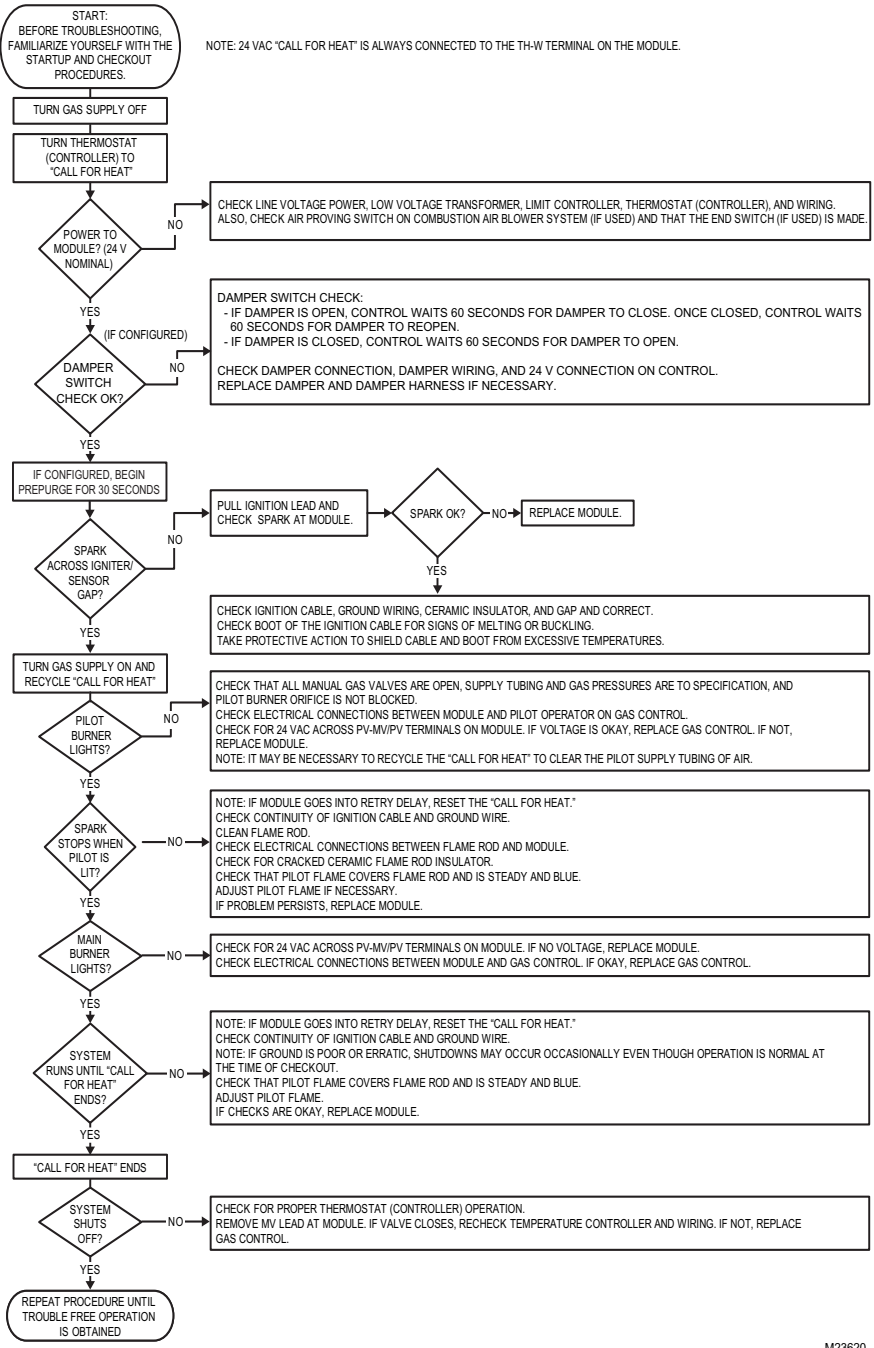

Fig. 11. Troubleshooting Guide.
- e. If main burner doesn't light or if main burner lights but system locks out, check the ignition control module's ground wire and the gas control as described in "Troubleshooting" on page 18 and refer to the Troubleshooting Guide (Fig. 11 on page 21).